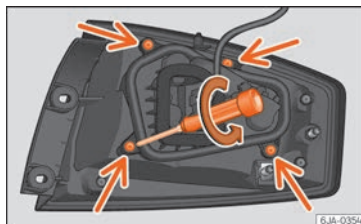

Fig. 100 Retaining screws on reverse side of rear light unit.
- Unscrew the four retaining screws from the bulb holder anti-clockwise using a screwdriver or a Torx 20 key (T20) from the vehicle tool kit **» Fig. 100**. Take care not to lose the bulb holder retaining screws.